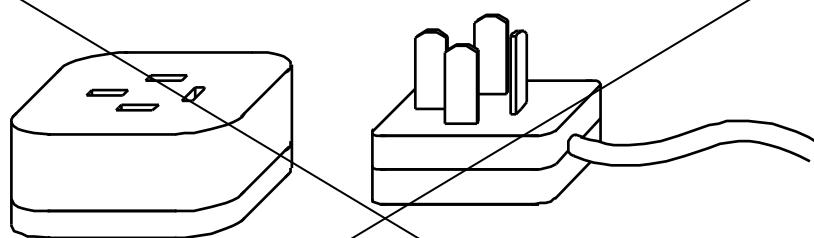

Figure20 3-phase power plug with four feet
- 1) Turn on each vertical post and run it at idle speed before the first operation. First insert the 3-phase power plug with four feet of the main electric cabinet into the supply socket which is in the electric cabinet.(see fig 20)